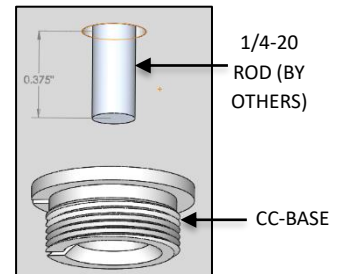

FIG. 10 - GRID CEILING INSTALLATION
6. Add a light thread locking compound to the 1/4-20 ROD (by others). Then thread CC-BASE to 1/4-20 ROD protruding through the ceiling material as shown in FIG. 10.